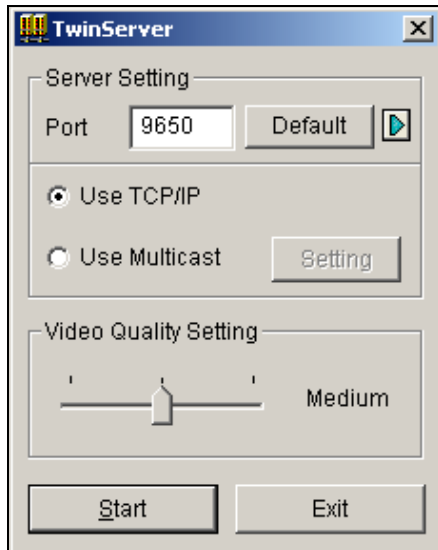

Figure 11-6 *TwinServer Settings*
3. Keep the server port in default, or it should match the TwinServer port. See Figure 11-6.